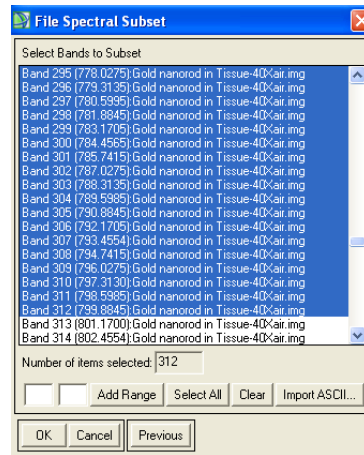

Figure 12. Selection of a subset of the spectral bands
9. The Spectral Subset now shows 312 out of 468 bands are selected (see Figure 12)